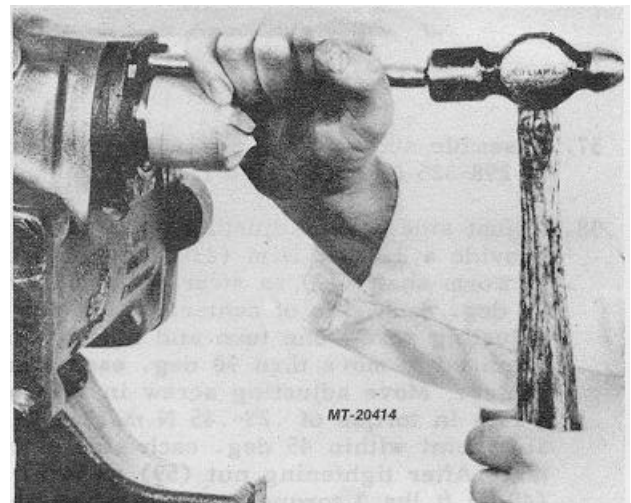

Fig. 48
47. Assemble seal (27) into trunnion cover (26) and tap into place with hammer and soft punch (Fig. 48).